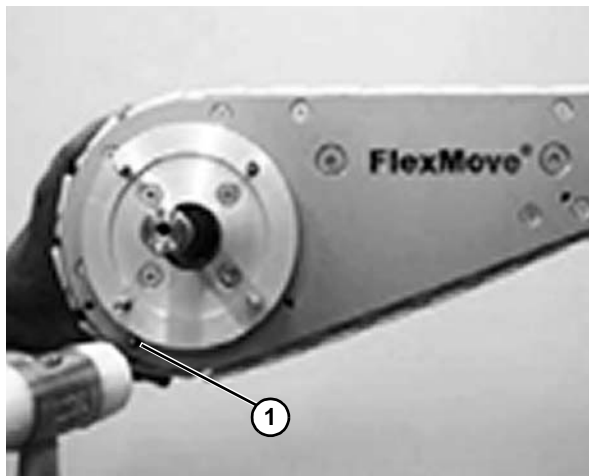

Figure 53
4. Tension the chain and remove links if necessary, so that the chain will exhibit some slack at the drive unit. Put in the stainless steel pin (**Figure 53, item 1**) at the hole provided at drive unit and join the chain.